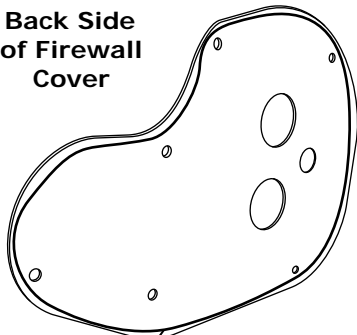

Figure 7a
2. Apply a 1/4" bead of silicone around the back side of the firewall cover as shown in Figure 7a, below.